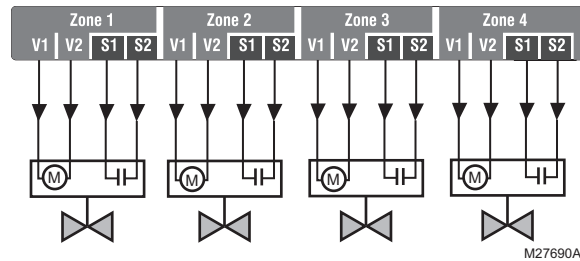

Fig. 13. Wiring an AQ15740B Zoning Module for use with low voltage zone valves with end switches.
4. Low voltage zone valves with end switches: See Fig. 13. 24 Vac power is pre-wired between the transformer secondary at the top left of the AQ252's transformer and the AQ15740B Zoning Module. No field wiring is required.